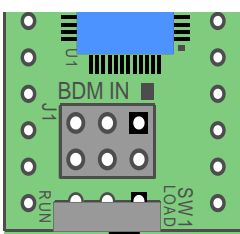
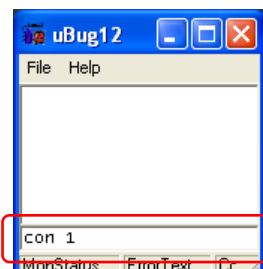

Figure 9 - Switch to Load Mode
Figure 10 - Command Window
1.42 Establishing a Serial Port Connection. Once you have launched uBug12, place the NanoCore12MAX switch in the **LOAD** position (see Figure 9) and reset your NanoCore12MAX (by bringing the **Reset** pin momentarily to logic low, as described earlier). Then click inside the command window of uBug12 (see Figure 10) and type the command *con 1* in order to establish communication between uBug12 and the NanoCore12MAX module. If you're using a com port other than 1, substitute the correct number (eg. type *con 3* if you are using com port 3). A **CONNECTED** message will appear in the uBug12 display window showing that the connection was successful.